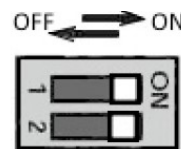
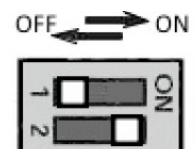

Fig. 2. DIP position 0-10V
Fig. 3. DIP position 0-5V
Step 1 – Be sure the white Output mode DIP switch is in the proper configuration. For 0-5V output, DIP switch #1 must be in the LEFT position and DIP switch #2 must be in the RIGHT position (see Fig 2). For 0-10V output, both #1 and #2 DIP switches must be in the RIGHT positions (see Fig 3).